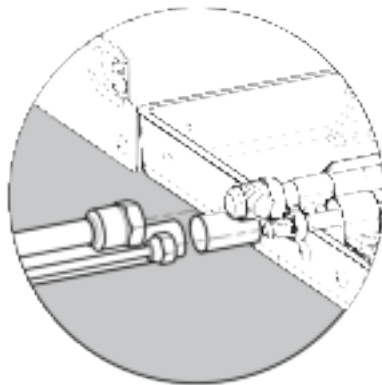

Fig.4.11
- (1) Remove pipe cover and pipe plug.
- (2) Direct the flared part of copper pipe to the center of screwed joint. Twist on the flared nut tightly by hand, as in Fig.4.11 (Make sure indoor pipe is correctly connected. Improper location of the center will prevent flared nut from being securely twisted. Thread of nut will get damaged if the flared nut is twisted forcibly).